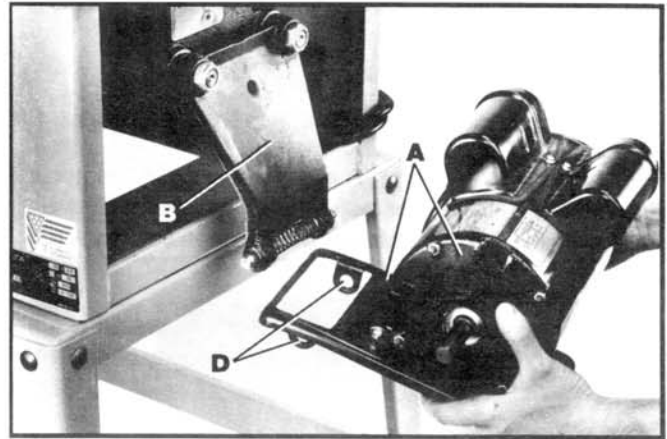
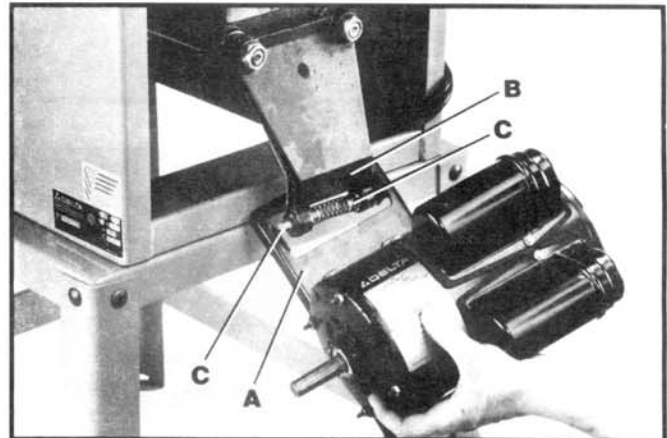

Fig. 8
Fig. 9
1. Position motor and motor mounting plate (A) Fig. 8, below bracket (B) to allow bracket arm to slide through large opening in motor mounting plate (A).
2. Depress plungers (C) Fig. 9, on both sides of bracket (B) and rotate motor mounting plate (A) until plungers (C) are engaged in holes (D) Fig. 8, of motor mounting plate (A).